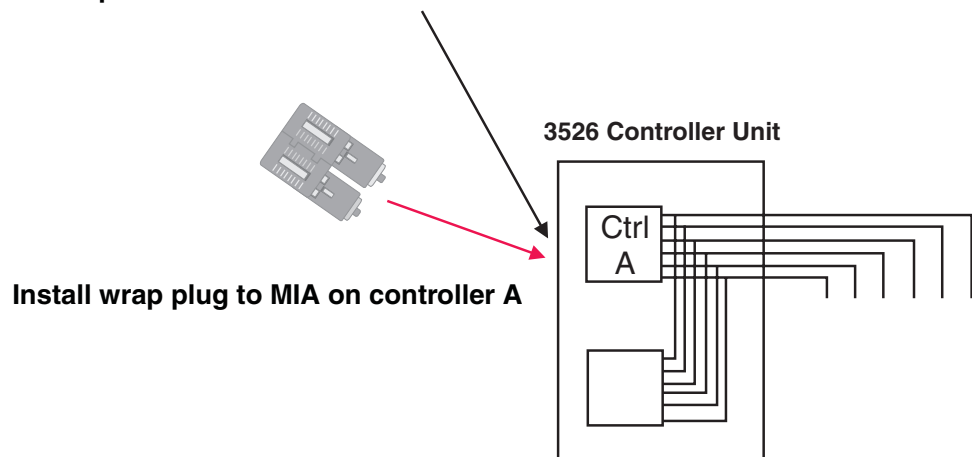

Figure 130. Install wrap plug to MIA on controller A
- a. For a Type 3526 RAID controller, install a wrap plug to the MIA on controller A. See Figure 130.